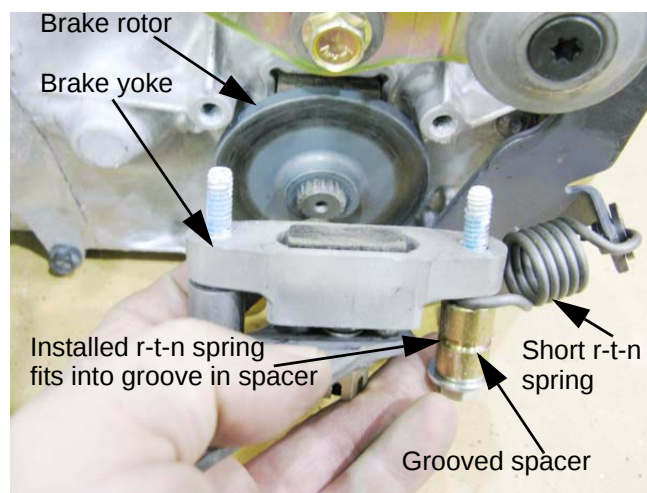

Figure 5.67
5. The yoke and outer pad will separate from the transaxle. See Figure 5.67.